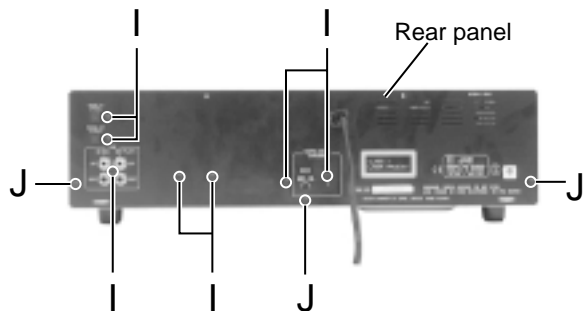

Fig.14
**■Removing the rear panel (See Fig.14)**